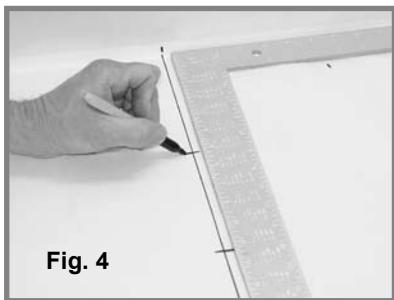

Fig. 4
STEP 5a: For through-the-floor water line and electrical wires, mark another centerline 6 inches (152 mm) from the back wall (fig. 4).